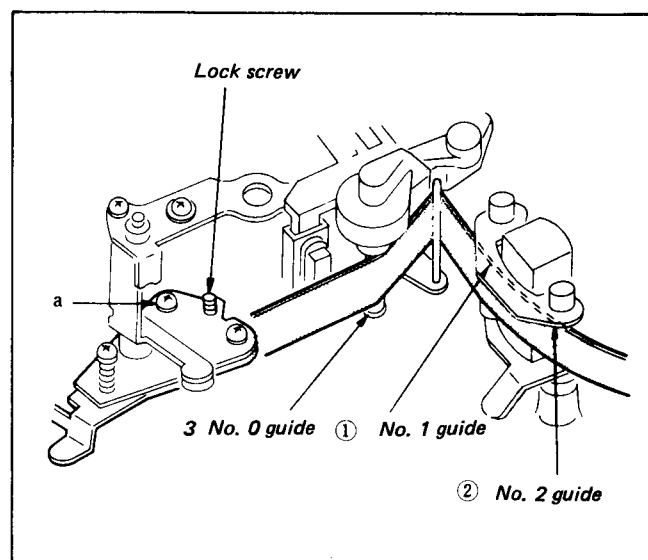

Fig. 3-6. Replacement and Adjustment of Tension Regulator Arm Plate Assembly (2)
- (6) Play back the Monoscope segment of the alignment tape (KR5-2H). Loosen the lock screw and adjust screw "a" so that the RF waveform becomes flat (see the waveform in the tape path adjustment, Section 3-16-1) when the TRACKING knob is turned to the right and left from the flanges of guides ①, ②, and ③ shown in Fig. 3-6, and there is not a large tape curl at the guides.